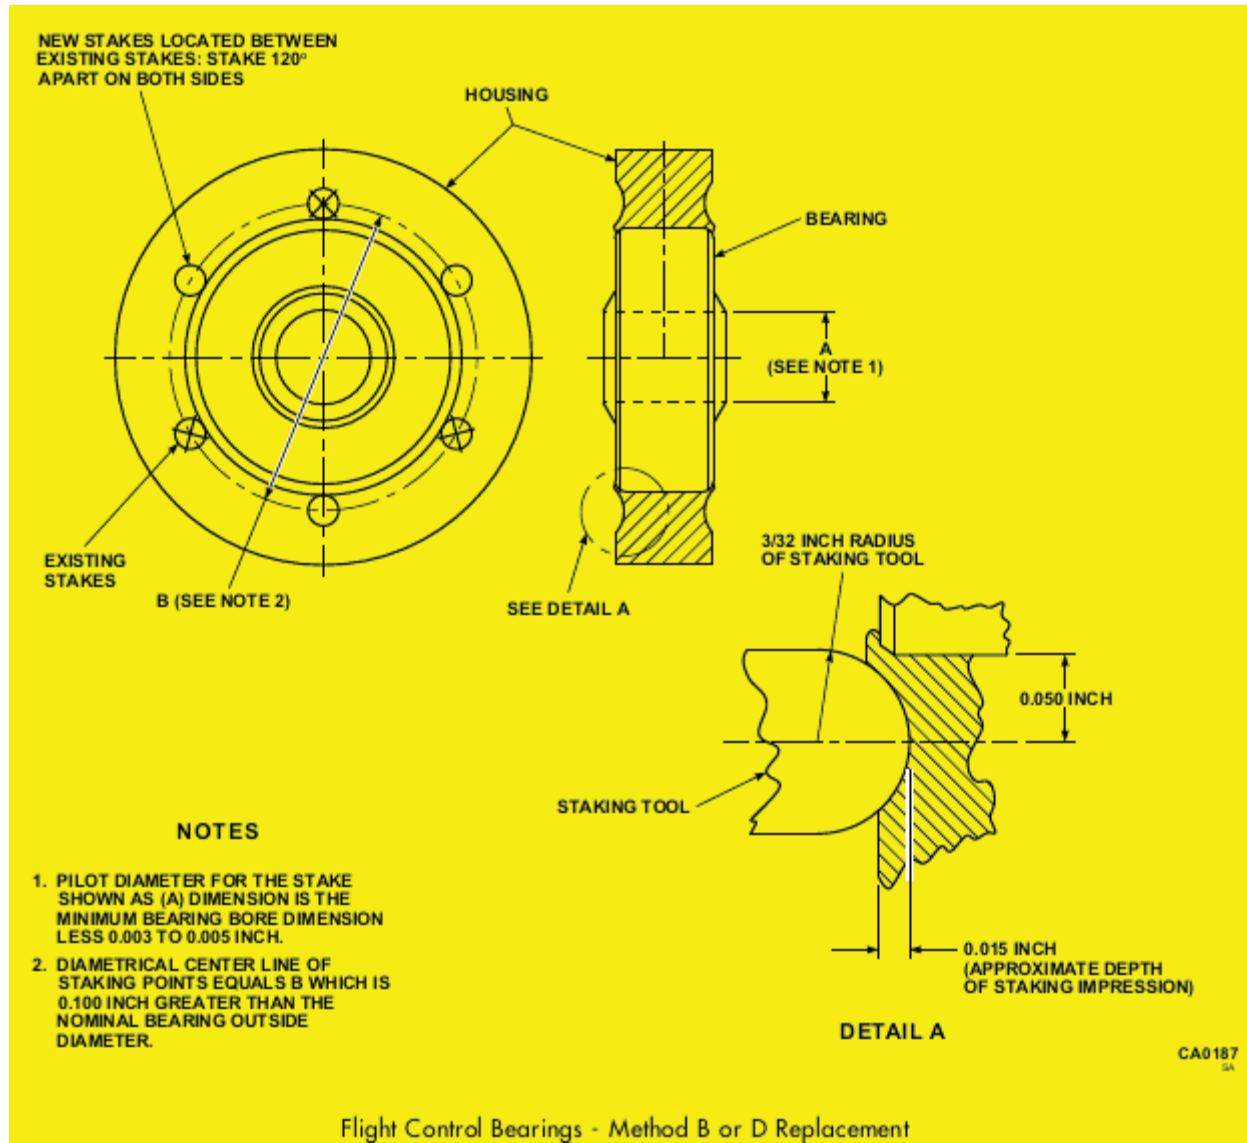

Figure 801
Install with Primer and Stake per Figure 801	B
- a) To replace a bearing by method B or C, sufficient new staking locations must be available. Compare existing staked bearing with Figure 801 for bearings designated with replacement method B or Figure 802 for bearings designated with replacement method C to verify sufficient staking locations remain. If sufficient new staking locations are not present the component is to be discarded. If sufficient locations are available, proceed to step (b).
- i) For bearings designated method B stake as shown in Figure 801 and for bearings designated method C stake as shown in Figure 802. Do not stake at original impressions. Stake only in new locations between existing staking marks. If there are no remaining new staking locations the component is to be discarded.